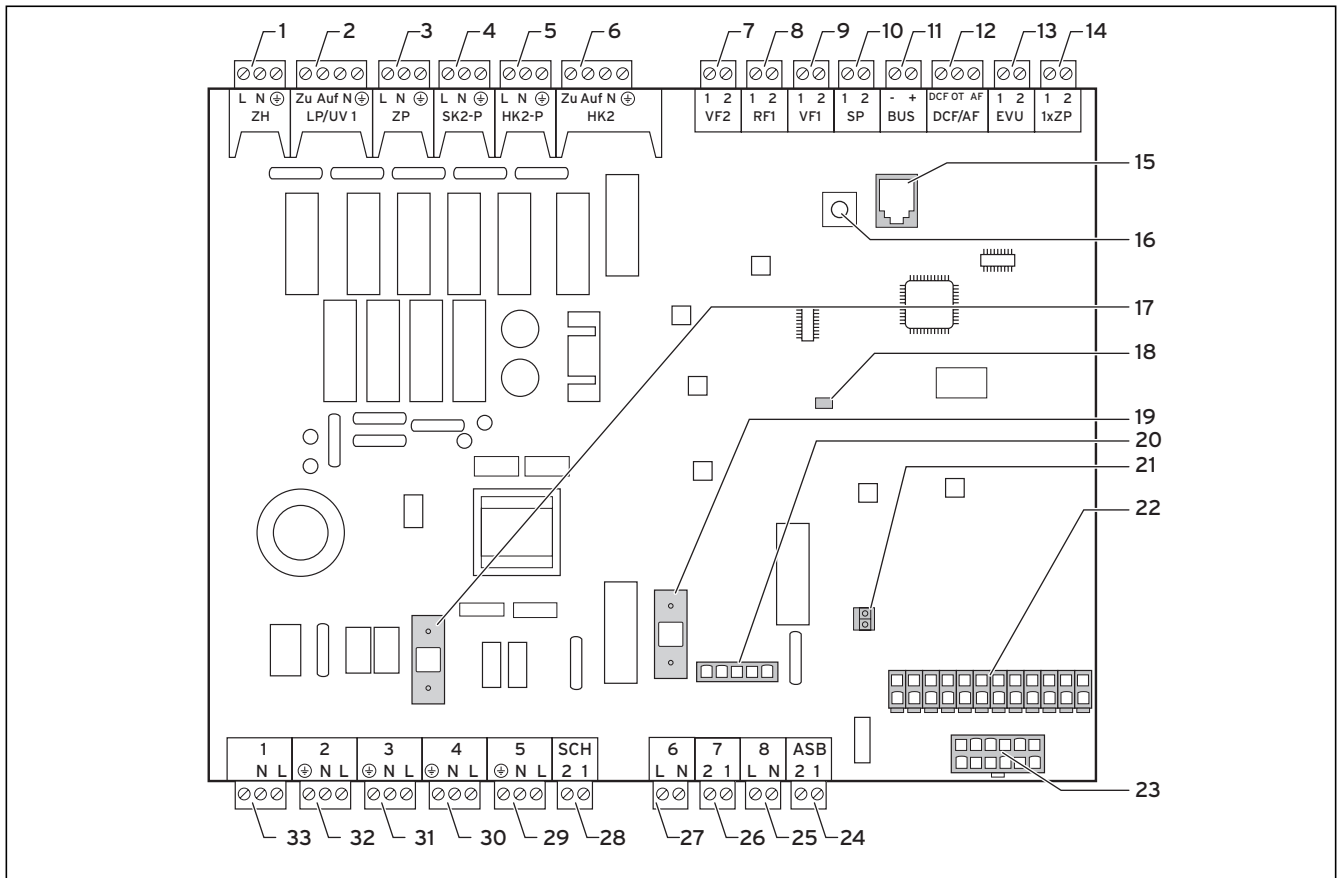

Fig. 6.7 Controller PCB
- Connect the ripple control signal relay to terminal 13 "EVU", if required by the power company. This signal blocks the heat pump when the contact is closed (see Fig. 6.7).
Key to Fig. 6.7